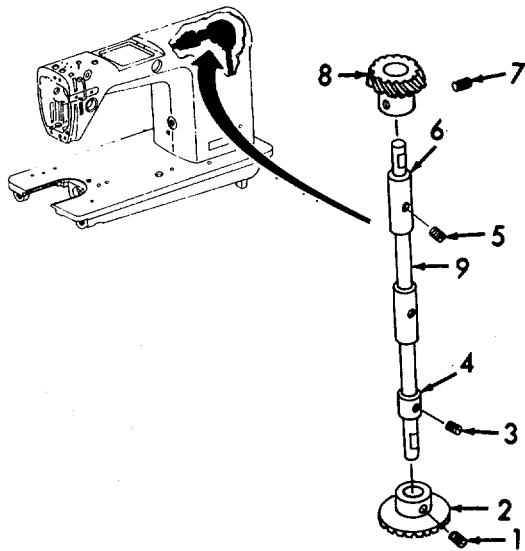

Figure 6-80. Vertical Shaft, Removal.
a. Removal (Refer to Figure 6-80).